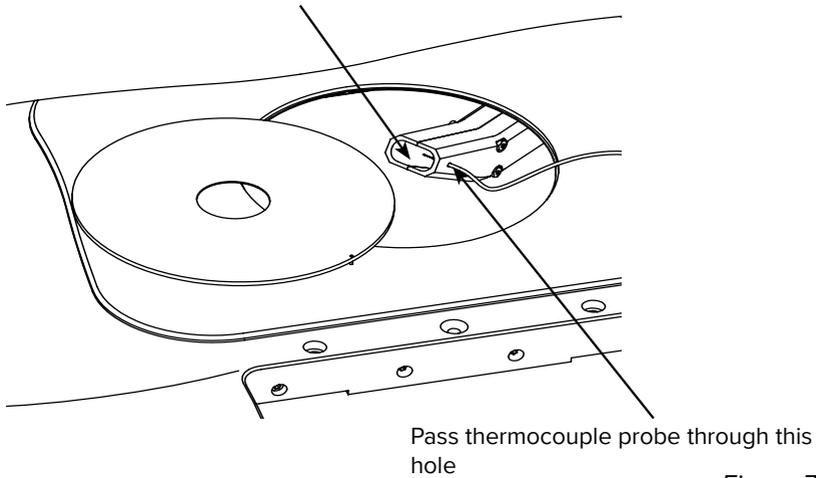

Figure 7-4
- 7 Place the probe of a calibrated thermometer through the small hole on the side of the air nozzle (see Figure 7-4) until the probe tip is centralised in the air stream.